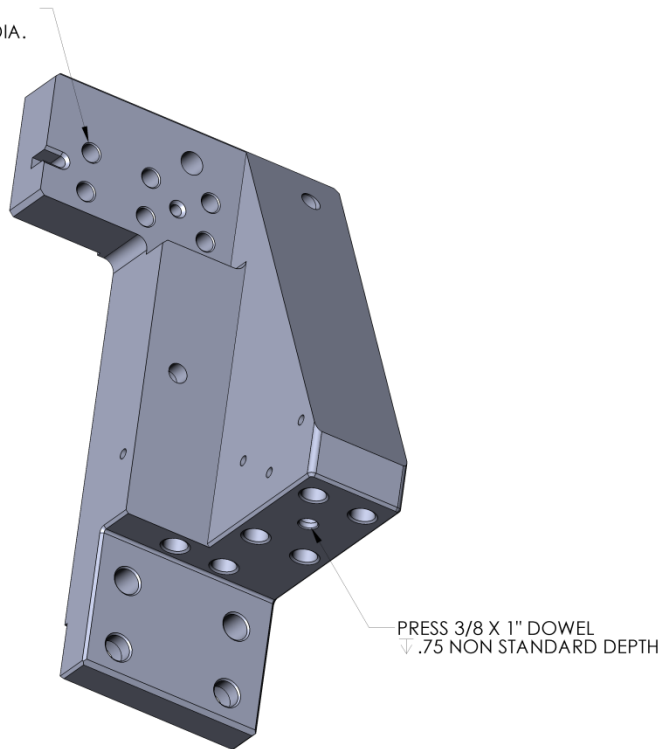

Figure 28
1. Apply Helicoils and dowels as shown Figure 28. Note press depth of dowel pins